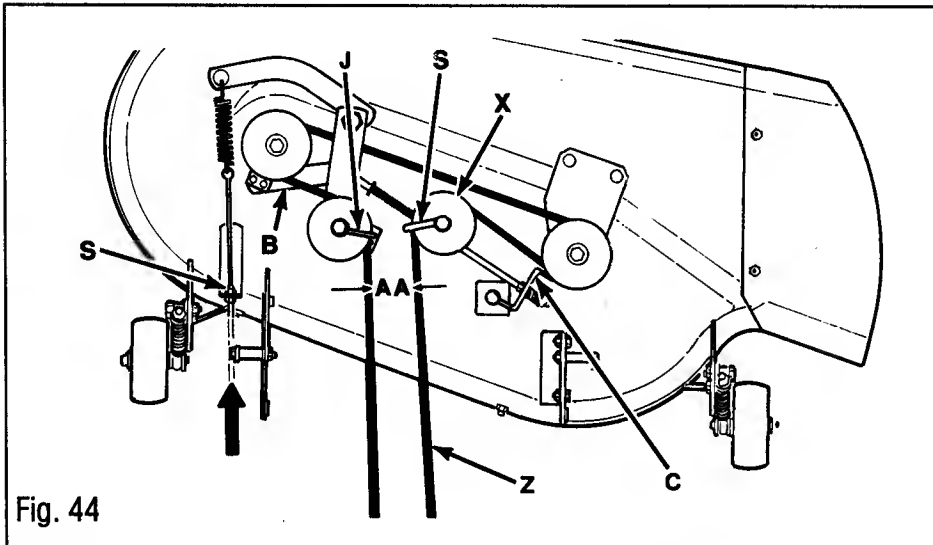
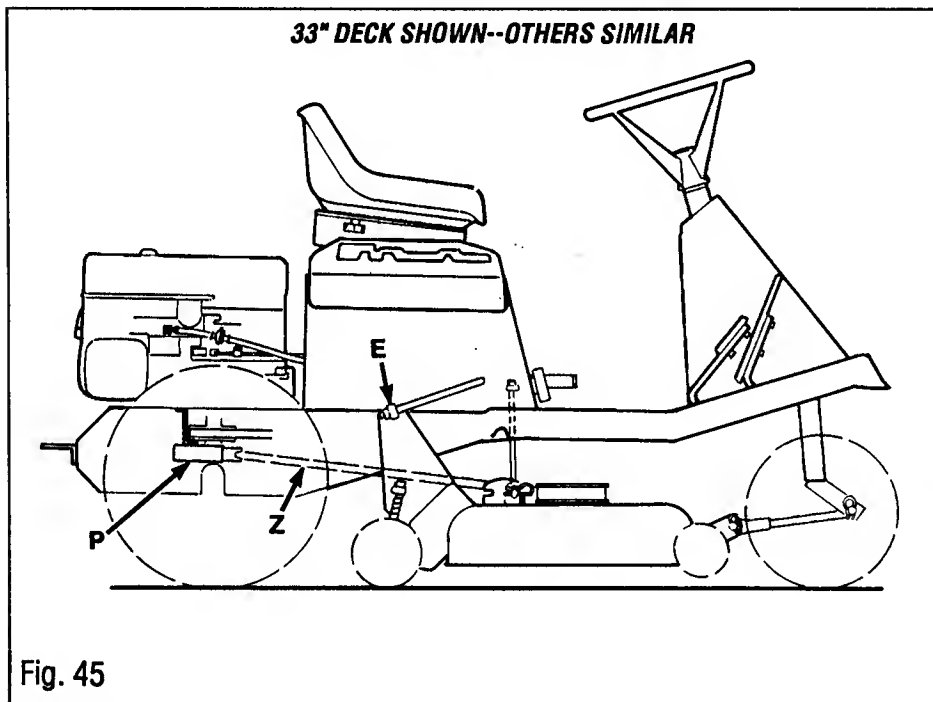
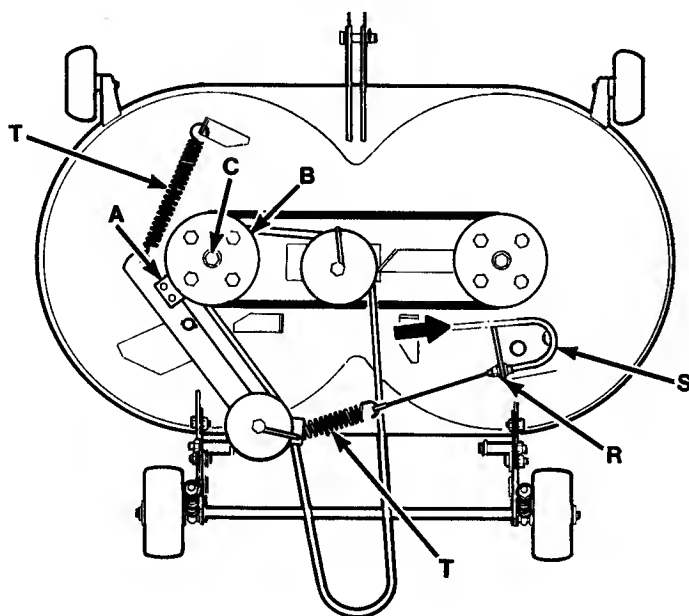
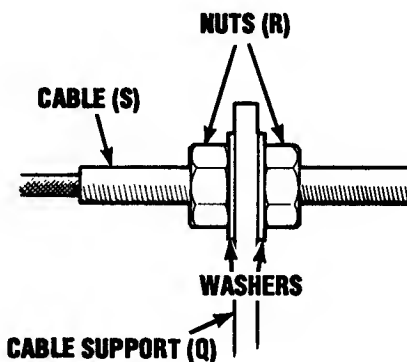

Fig. 44
Fig. 45
Fig. 47
Fig. 48
7. Re-tighten belt guide (H) $1/16"$ (.15 cm) away from drive belt.
8. With the mower in the highest setting, check clearance between belt at point (AA). If there is not at least a 1" (2.5 cm) gap, move mower ahead by adjusting pivot location on lift arms (E, Fig. 45). It may be necessary to adjust rod (A, Fig. 45) to level mower.
9. With mower blade drive engaged, belt guide (Y) should not contact drive belt.
1. Loosen belt guides (A & B Fig. 42 and (P, Fig. 45).
2. Rotate idler arm (C) away from pulley (R). Replace belt (Z) with new belt.
3. Route belt between idler (Q) and belt guide (A). Place guide (A) in approximate position shown and secure.
4. Place new belt into groove of stationary idler (E) and secure belt guide (B) in rear of slot as shown.
5. Place new belt into groove of engine pulley and assemble belt guide (P, Fig. 45) as far forward as possible. Re-tighten guide (P). Check clearance between guide (P) and bolt heads on differential. A gap of $1/8"$ should exist.
7. With the mower in the highest setting, check clearance between belt at point (AA, Fig. 44). If there is not at least a 1" (2.5 cm) gap, move mower ahead by adjusting pivot location on lift arms (E Fig. 45).
3. Replace belt (Z) with new belt. Place new belt around pulleys, between idlers and belt guides (J & S) as shown in Fig. 44.
4. Secure belt guide (S) and idler in rear of slot as shown.
6. Position guide (J) through hole in bottom of plate and secure in place.
7. Place new belt into groove of engine pulley and slide belt guide (P, Fig. 45) as far forward as possible. Re-tighten guide (P). It may be necessary to rotate differential to assemble belt. After assembly, check clearance between guide (P) and bolt heads of differential. A gap of 1/8" should exist.
9. With the mower in the highest setting, check clearance between belt at point (AA). If there is not at least a 1" (2.5 cm) gap, relocate idler (X) as far ahead as possible. If more adjustment is needed, move mower ahead by adjusting pivot location on lift arms (E, Fig. 45).
28" Decks Adjust the mower drive cable end (S, Fig. 42 and S, Fig. 48 on the following page) or move mower back by adjusting pivot location on lift arms (E, Fig. 45). Repeat this test until belt does not move. Check mower leveling after adjusting pivot (E).
1. Loosen belt guides (J & S, Fig. 44 and P, Fig. 45).
2. Rotate idler arm (B, Fig. 44) and brake arm (C), and remove belt (Z).
33" & 36" Decks Adjust the mower drive cable end (S, Figs. 42 & 44 and S, Fig. 48 on the following page) or relocate the adjustable pulley (B, Fig. 42 or X, Fig. 44) within its slot on the idler support bracket. If further adjustment is necessary, move mower ahead by adjusting pivot location on lift arms (E, Fig. 45). Repeat this test until belt does not move. Check mower leveling after adjusting pivots (E).
2. If brake pad (A, Fig. 47) does not squarely contact both top and bottom surfaces of pulley (B), re-position pulley (B) as follows:
3. Adjust cable (S, Figs. 48 & 49) at nuts (R, Fig. 47 & 48) so there is a slight slack in spring (T, Fig. 47). *WHEN ADJUSTED, SPRING (T) SHOULD NOT BE UNDER TENSION*
4. If blade still does not stop within 5 seconds after the mower drive has been disengaged, replace brake pad (A, Fig. 47).
3. Adjust cable (S, Figs. 48 & 49) at nuts (R, Fig. 48) so there is a slight slack in spring (T, Fig. 44). *WHEN ADJUSTED, SPRING (T) SHOULD NOT BE UNDER TENSION*